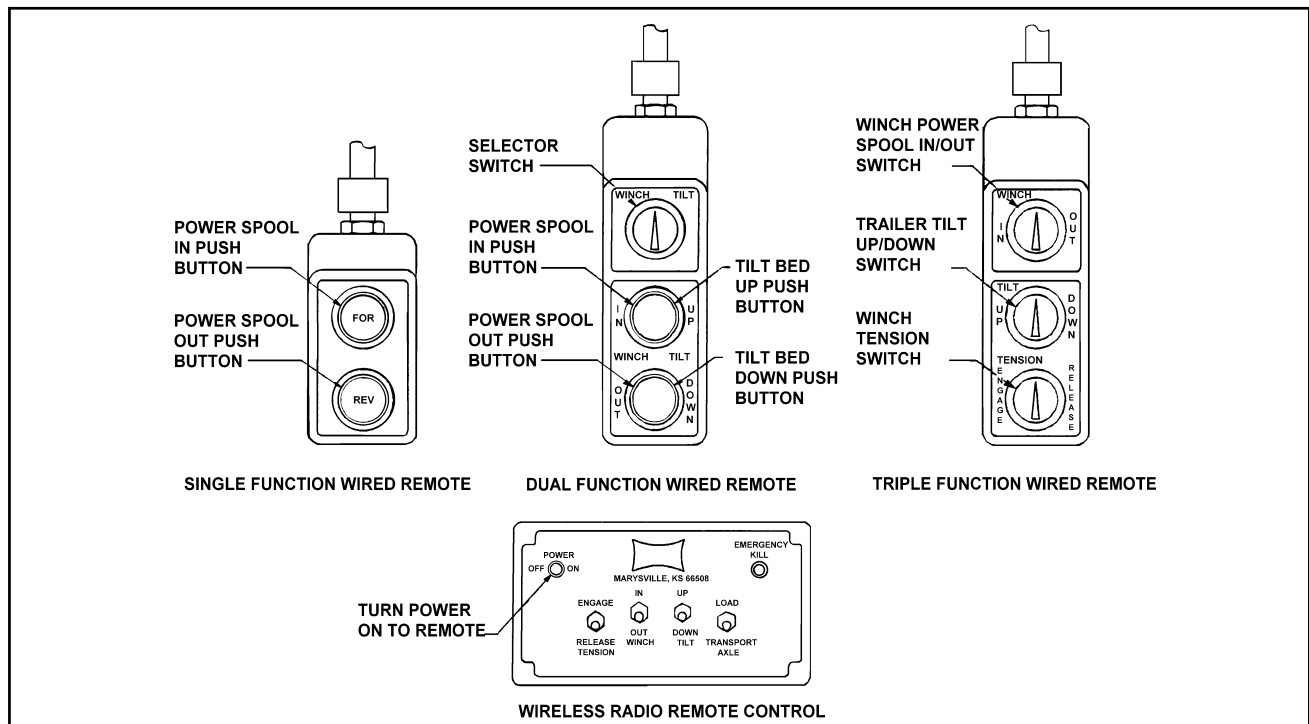

Figure 3-12 Examples of Remote Control Options
**3-21.2** A wireless radio remote control is also available as a dual, triple, or quadruple function (See Figure 3-12).